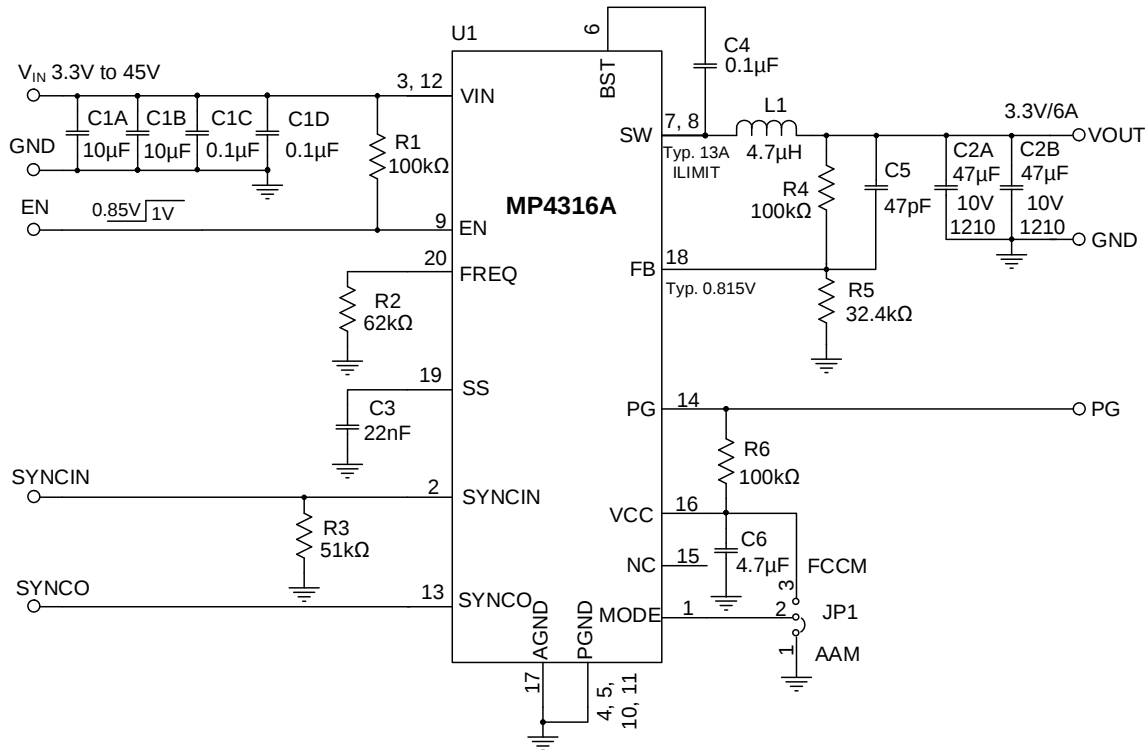

Figure 10: $V_{OUT} = 3.3V$, $f_{SW} = 470kHz$
12) The recommended PCB layout is based on Figure 10 on page 34.